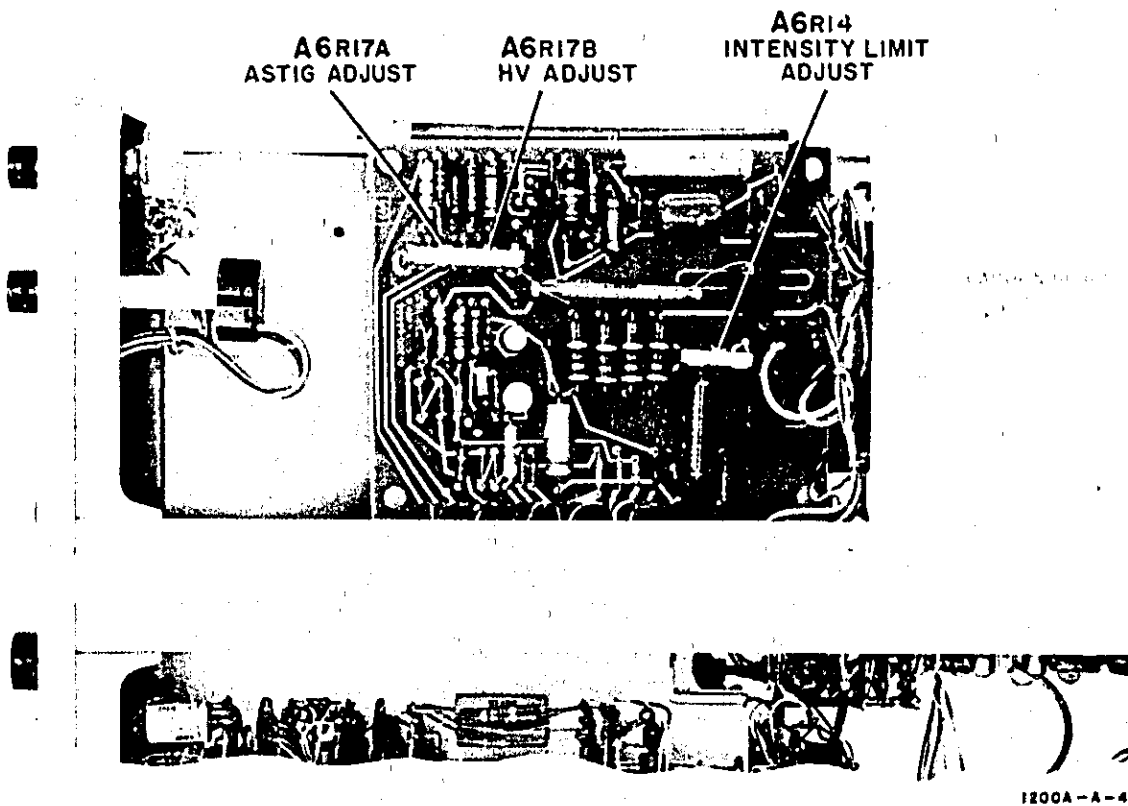

Figure 5-2. High Voltage Power Supply Adjustments
e. Adjust A6R17B (see figure 5-2) for same voltage as calculated in step c ($-2,915 \text{ V} \pm 5 \text{ V}$ discounting probe attenuation).
c. Adjust A6R17A (see figure 5-2) for largest, roundest dot possible.
- c. Adjust A6R14 (see figure 5-2) until dot just disappears.